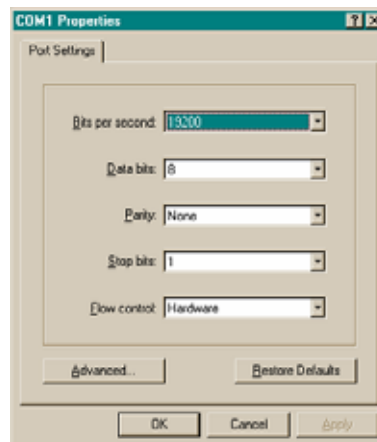

Figure 7-8: Serial Port Settings
6. Enter these settings for the serial port (Figure 7-8):